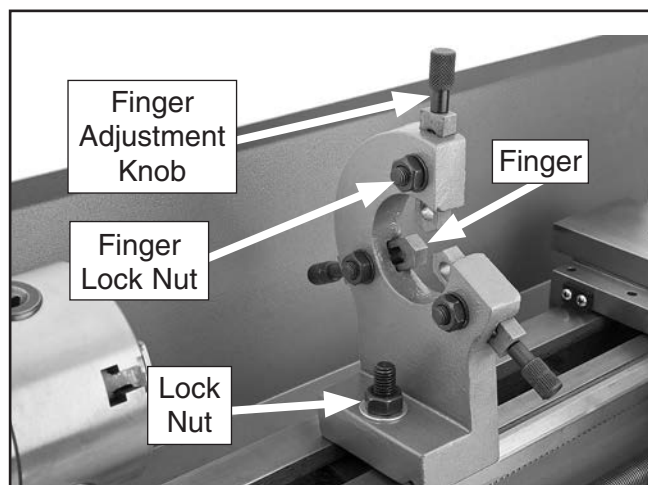

Figure 40. Steady rest components.
3. Loosen finger lock nuts (see **Figure 40**), turn finger adjustment knobs, and adjust fingers as required for workpiece.